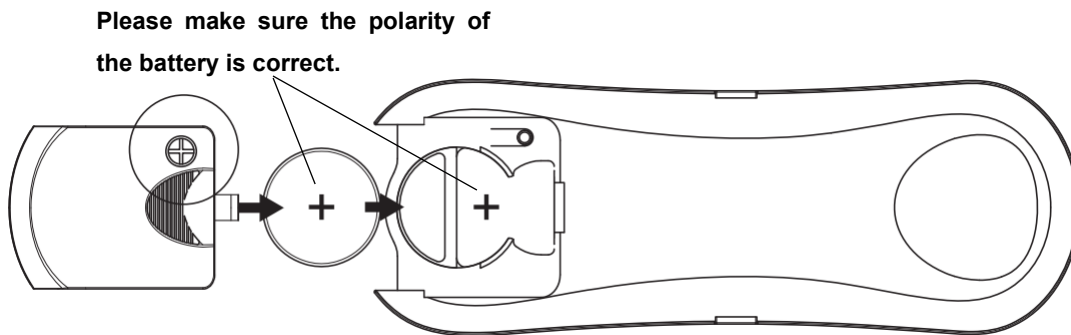

Fig. 10c
3. Install a new 3V CR2032 DC battery in the compartment. Please make sure the polarity of the battery is correct. (Fig. 10c)